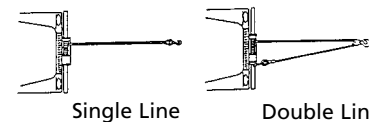

Figure 1
1. Do not maintain power to the winch if the motor stalls. Overloads can damage the winch and/or the wire rope and create unsafe operating conditions. FOR LOADS OVER 2/3 RATED CAPACITY, WE RECOMMEND THE USE OF A PULLEY BLOCK TO DOUBLE LINE THE WIRE ROPE (Figure 1). This reduces the load on the winch and the strain on the wire rope by approximately 50%. If attaching back to vehicle, attach to the frame or other load bearing part. **The vehicle engine should be running during winch operation to minimize battery drain and maximize winch power and speed.** If considerable winching is performed with the engine off, the battery may be too weak to restart the engine.